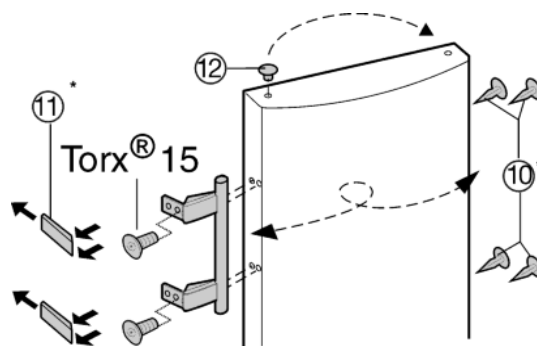

Fig. 7
- Lift the stopper *Fig. 7 (12)* out of the door bearing bush and transfer it.
- Detach door handle, stoppers *Fig. 7 (10)* and pressure plates *Fig. 7 (11)* and transfer to the opposite side.